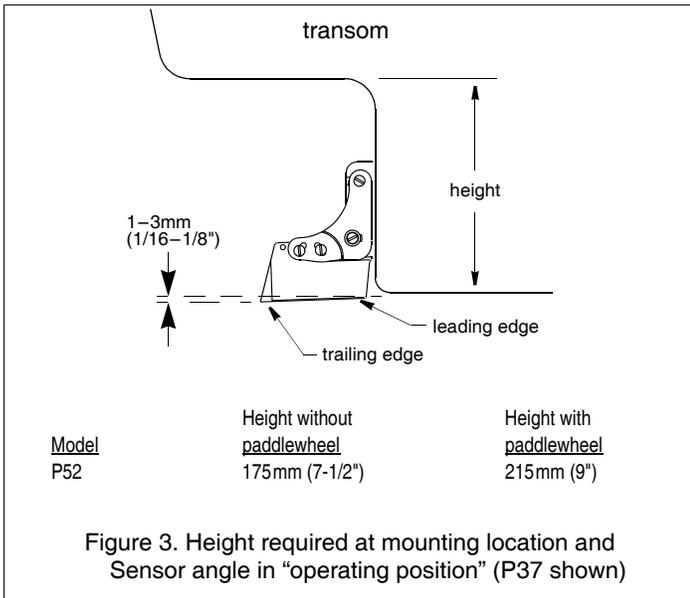
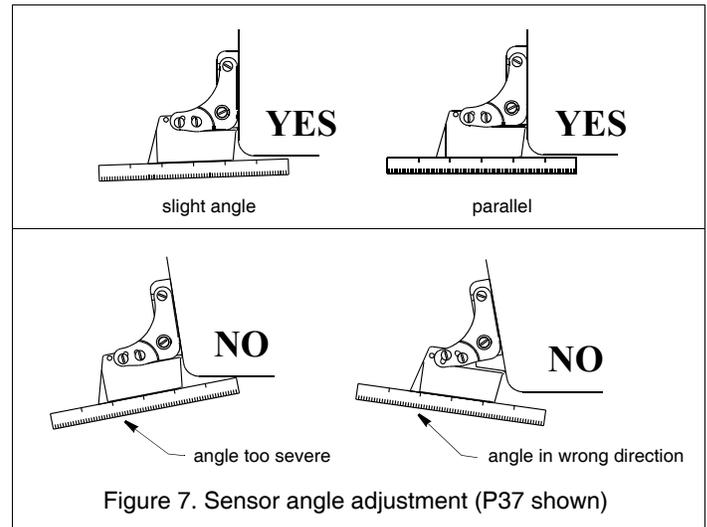

Figure 3. Height required at mounting location and Sensor angle in "operating position" (P37 shown)
Figure 7. Sensor angle adjustment (P37 shown)
- Allow headroom space above the bracket for it to release and rotate the sensor upward (see Figure 3).
6. Adjust the angle of the sensor on the bracket. Using a straight edge, sight the underside of the sensor relative to the underside of the hull (see Figure 7). For best results, the trailing edge of the sensor should be 1-3mm (1/16-1/8") below the leading edge of the sensor or parallel to the bottom of the hull (see Figure 3). Tighten the screws.